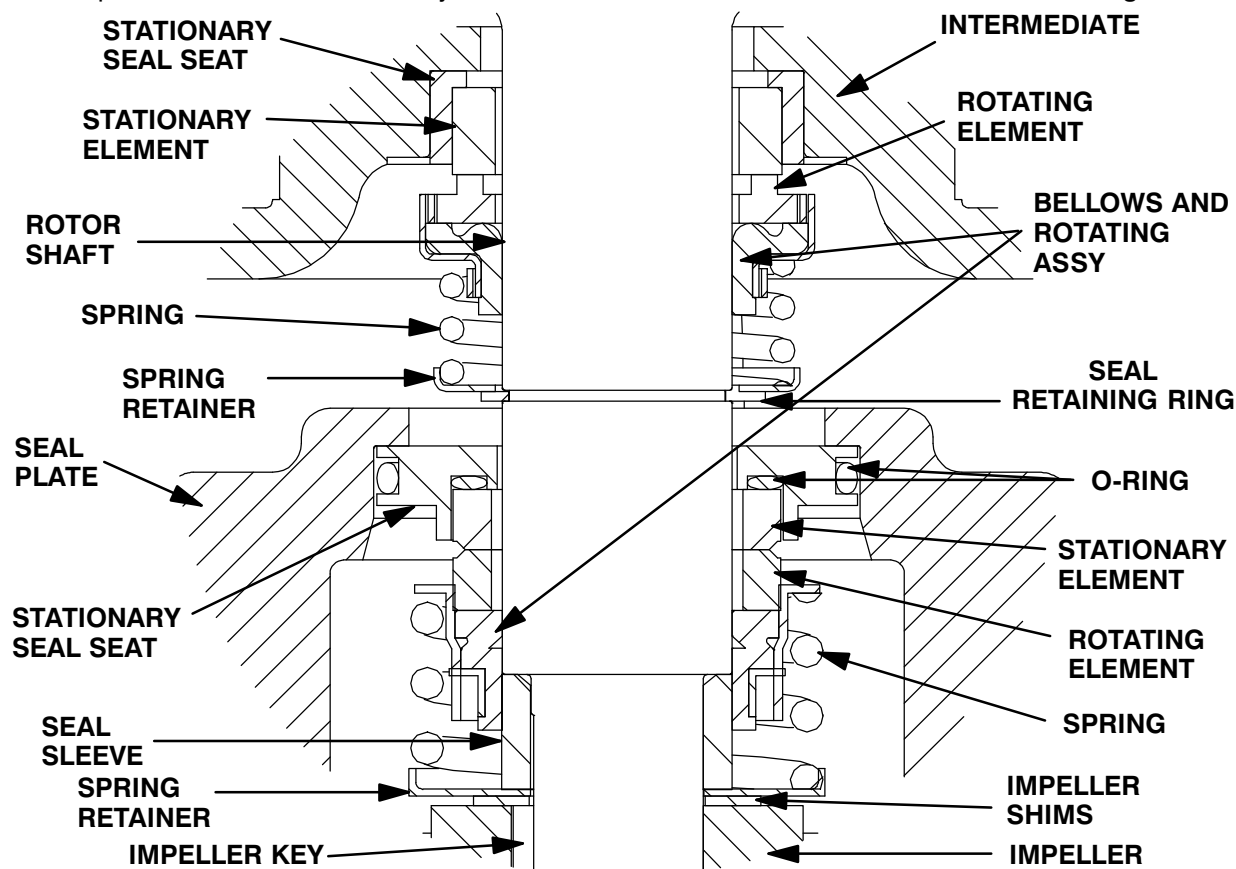

Figure 3. Upper and Lower Seal Assemblies
Install the shaft seals as illustrated in Figure 3.
Slide the seal spring over the shaft and bellows retainer, and install the spring retainer. Compress the spring and install the seal retaining ring (12). See Figure 3 for proper order of seal assembly.
Unpack the stationary portion of the seal and check that the O-rings are properly installed (see Figure 3). Apply a **light** coating of oil to the O.D. of the outer stationary seat O-ring. Keep the sealing face dry.